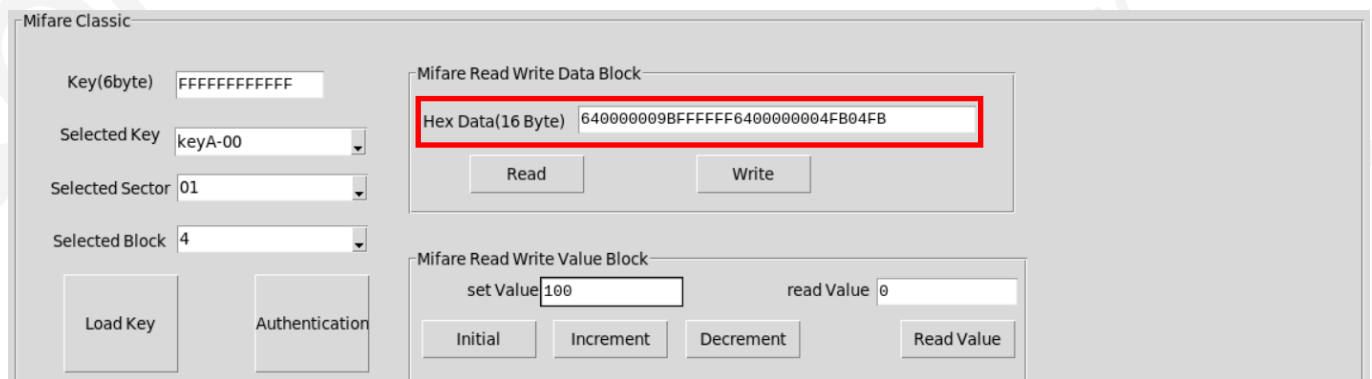

Figure 6.5-1 Input 16-byte hexadecimal data
- Input 16-byte hexadecimal data to be written, as shown in Figure 6.5-1.